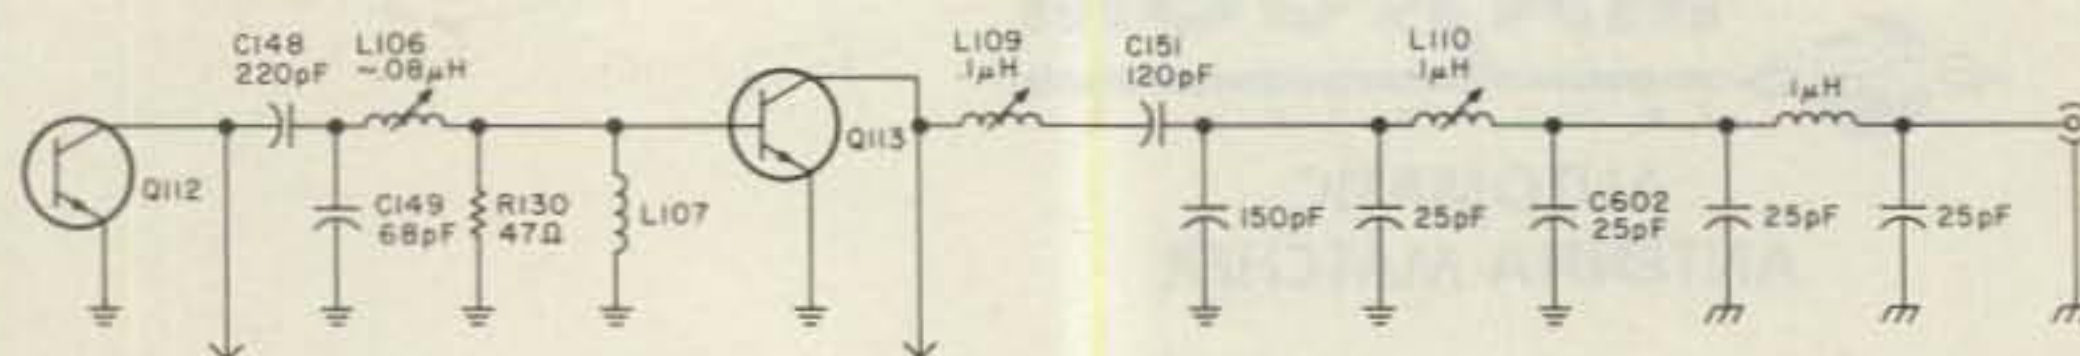

Fig. 5. New driver/final circuitry (simplified).
m) We are now almost finished. Remove Q112 and replace it with Q113. Obtain a 2SC1307 transistor to use in the final. The original Q112 (2SC1760) does not have enough gain in the 50-MHz range. If you are converting a different CB, be sure to check the performance of the transistors. After completing the above steps, your circuit should look like Fig. 5. Notice I did not show R129, L105, L116, L108, etc. These remain unchanged!